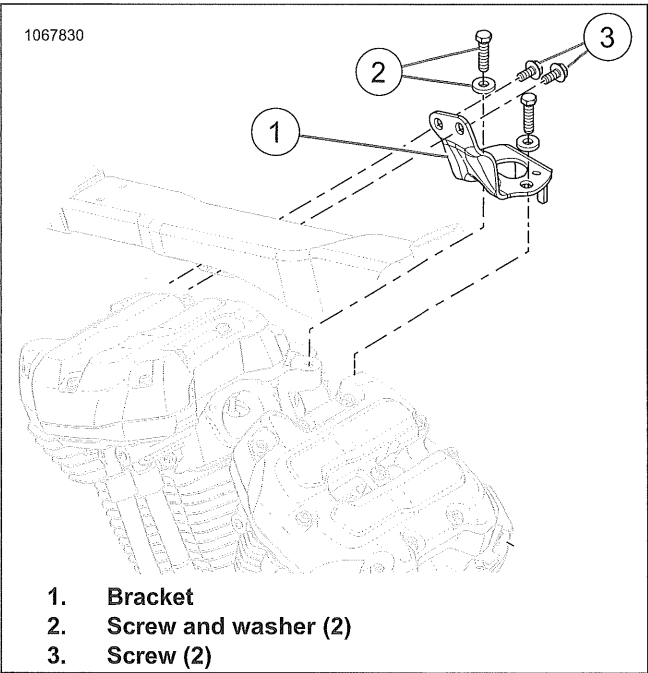

Figure 4-17. Left Side Engine Mount
- 1. See Figure 4-17. Remove bracket (1).
- a. Remove screws (3).
- b. Remove screws and washers (2).
- c. Remove bracket (1).
- 1. See Figure 4-17. Install bracket (1).
- a. Install bracket (1).
- b. Install screws and washers (2). Hand tighten.
- c. Install screws (3). Hand tighten.